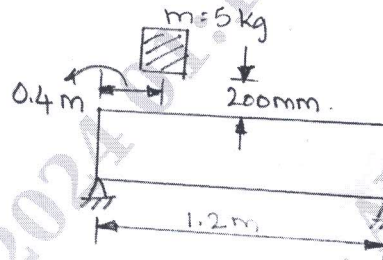

Fig. Q3 (b)
- b. A 5 kg block is dropped from a height of 200 mm onto a beam shown in Fig. Q3 (b). The material has an allowable yield stress of 50 MPa. Determine the dimensions of rectangle section whose depth is 1.5 times the width. Take $E = 70 \text{ GPa}$.